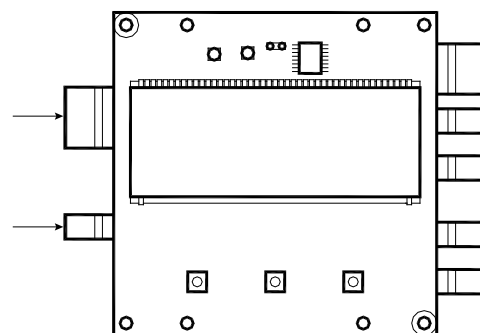

Figure 29: Cables to plugs
4. Connect the cables to the corresponding plugs on the left side of the board as shown in Figure 29.